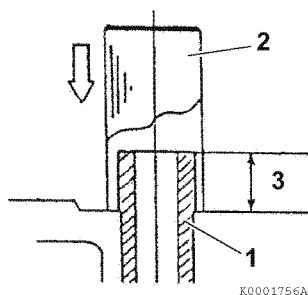

Figure 6-29
3. Finish installing the valve guides (1, **Figure 6-29**) into the cylinder head to the proper height (3, **Figure 6-29**) using the valve guide installation tool (2, **Figure 6-29**). See *Valve Guide Projection specification starting on page 6-5*.